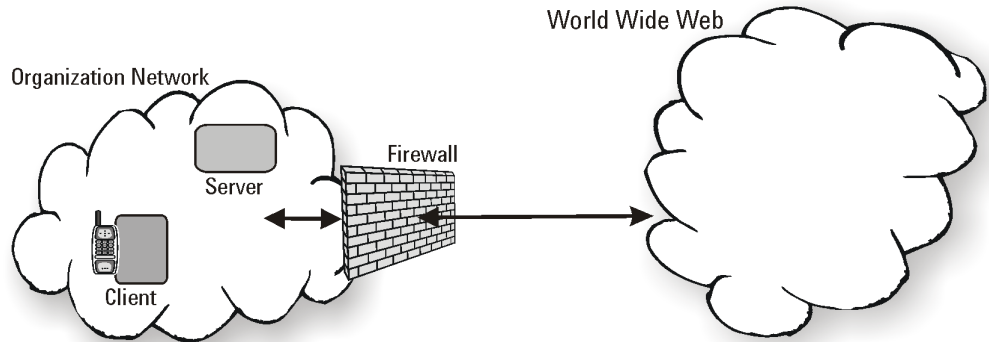

Figure 5 Location 1 - server system inside firewall.
- Location 1 – the data server system is located within the organization network, within the firewall. Refer to Figure 5. The client system can only operate from within the same network as the server system.